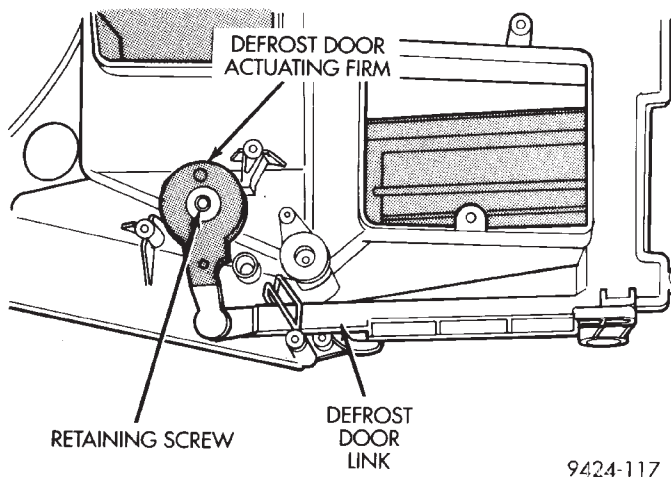

**Fig. 79 Defrost Door Actuating Arm Screw**
(23) Remove screw at defrost door actuating arm (Fig. 79). Remove defrost door link from arm.